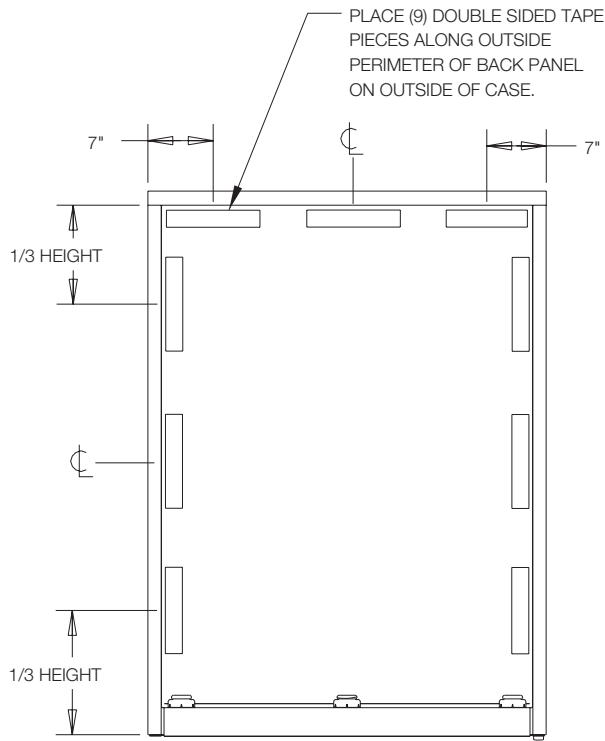

FIG. 2
**Note:** Make sure clips are fully seated in slots on back panel. (FIG. 2)
Place LH slide without interlock fingers and right hand slide in slot 20. (FIG. 2)
Place LH slides with interlock fingers and RH slides in slots 15 and 3. (FIG. 2)